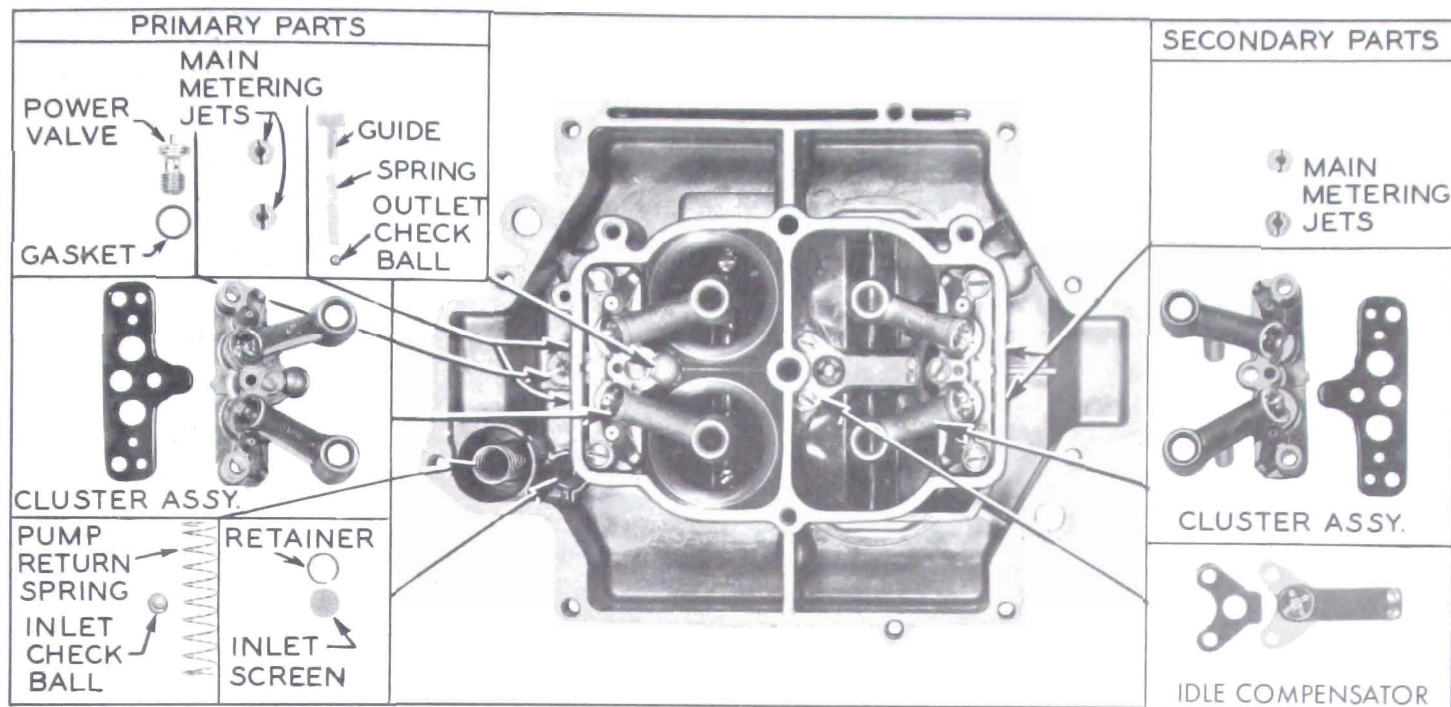

Figure 3-64—Main Body Parts
13. Remove both main metering jets from pump side of main body. See Figure 3-64.